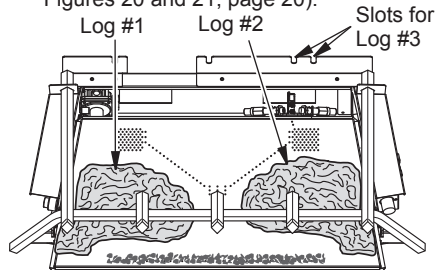

Figure 20 - Installing Logs #1 and #2
1. Place log #1 onto pins on the left of the burner. Place log #2 onto pins on the right of the burner (see Figure 20).
2. Insert pins on the back of log #3 into slots in rear log bracket on grate base (see Figures 20 and 21, page 20).